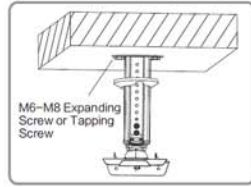

Figure 6
Attach the mounting plate (1) to the main tube with the 4 screws, spring bolts and washers. Slide the cover (3) over the tube. Then attach the mount to the ceiling. The ceiling must be able to carry a load of min 40kg (fig 6). Use the M6 ceiling bolts or suitable wall plugs/screws.